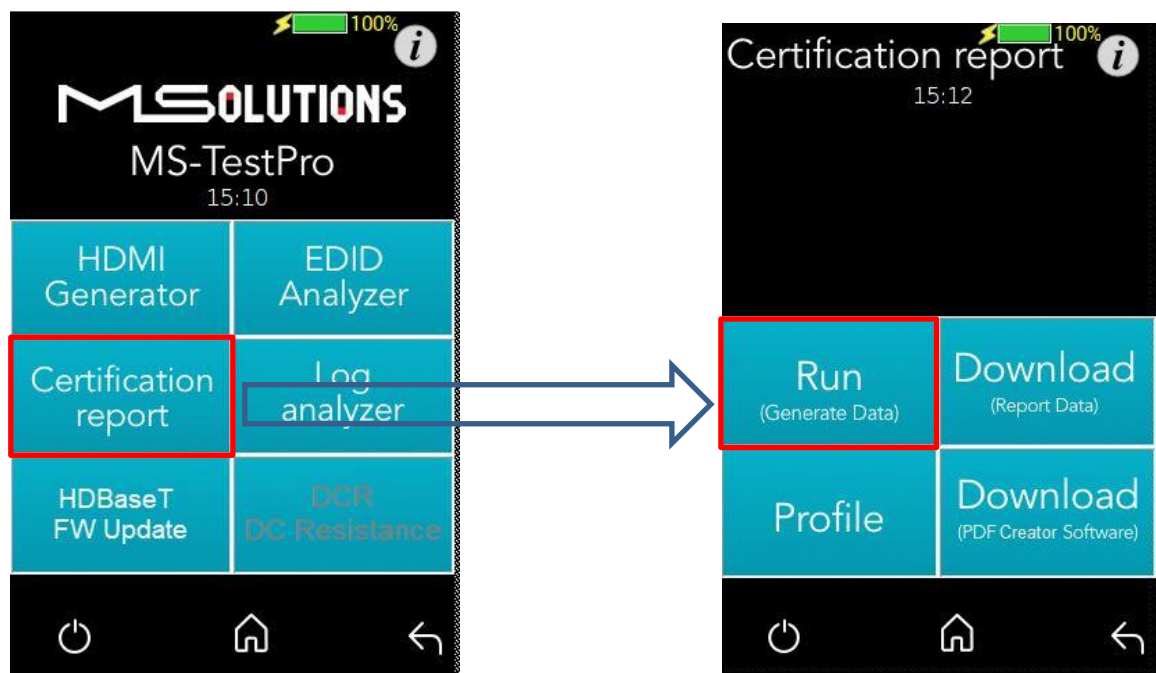

Figure 33: Generate Report Data
2. Select **Certification report >> Run (Generate Data)**, as shown below in Figure 33: